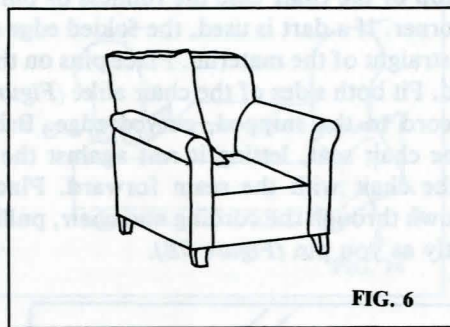

FIG. 6
**Fit Inside Back.** Fold the rectangle of fabric for the inside back piece lengthwise to locate the center. Cut a notch at the top and bottom to mark the center (Figure 6).